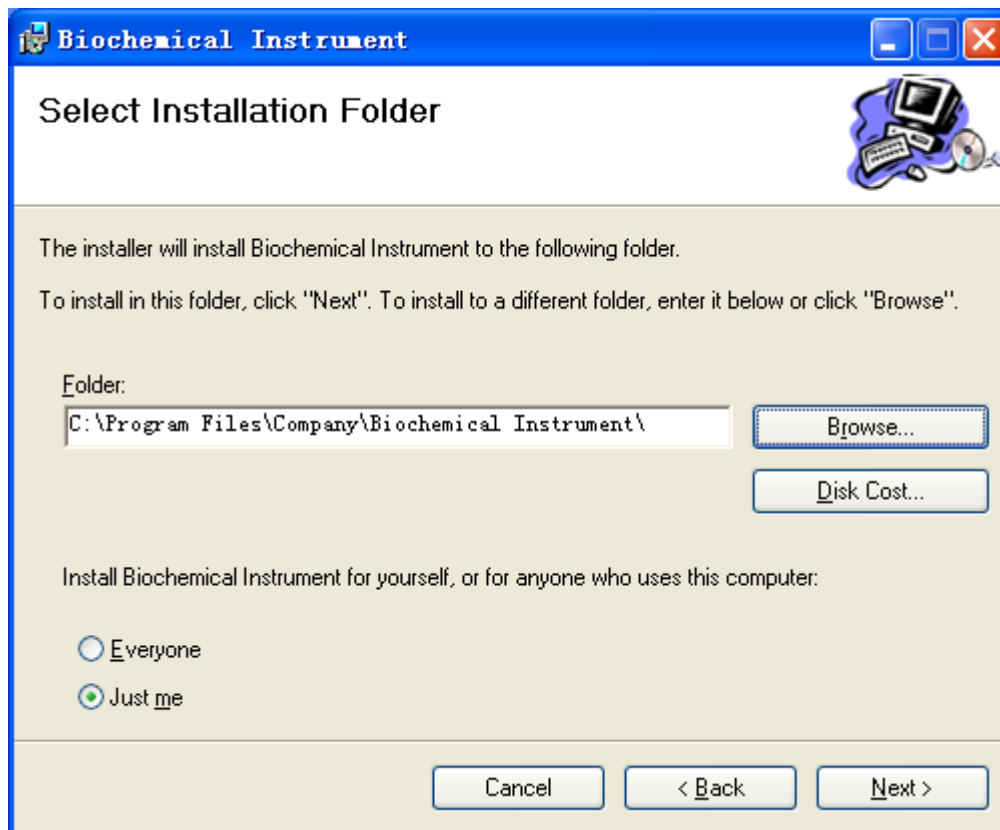

Figure 4-2
4. Click the "next", as shown in figure 4-2: